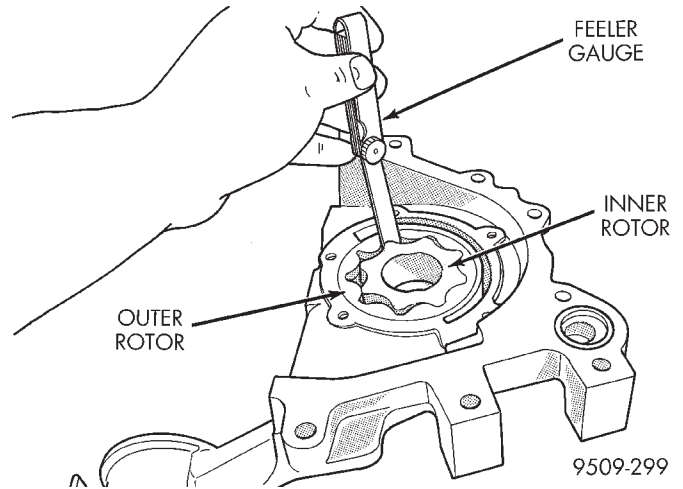

Fig. 97 Measuring Clearance Between Rotors
(6) Install inner rotor into pump housing. If clearance between inner and outer rotors (Fig. 97) is .203 mm (.008 inch) or more, replace both rotors.